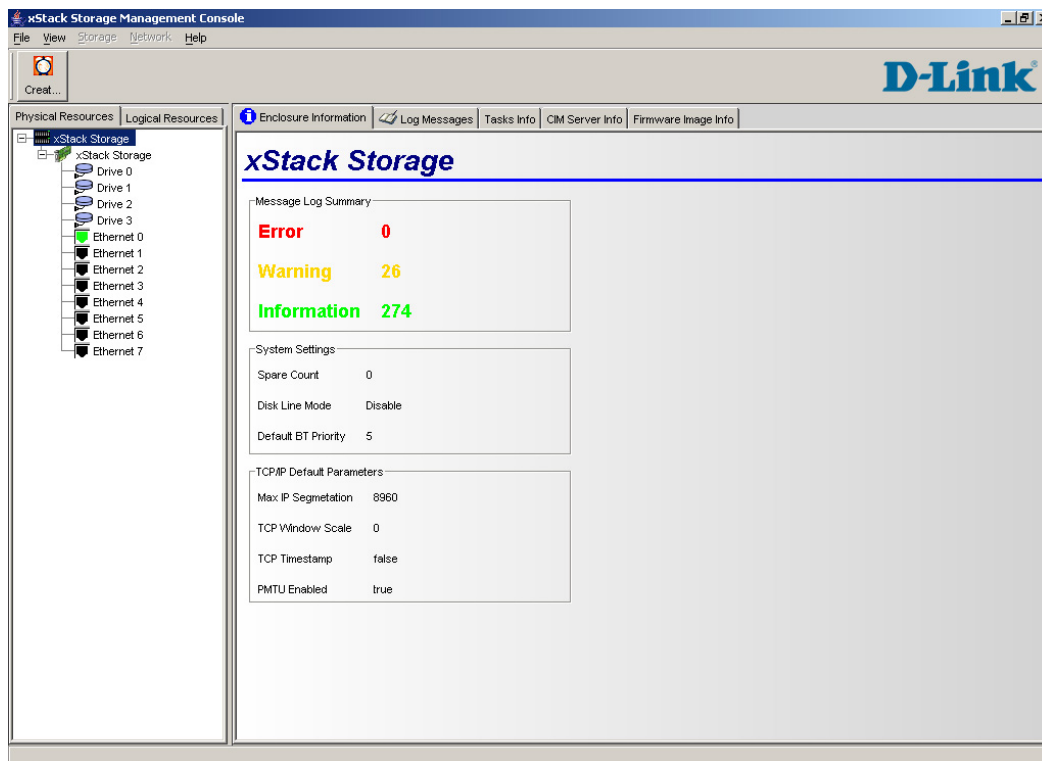

Figure 5-2 XStack Storage Management Console Main Screen
4. Click the **OK** button. A screen appears with a progress bar as the connection is being made to the XStack Storage. Once the connection is made, the main screen appears (see Figure 5-2).